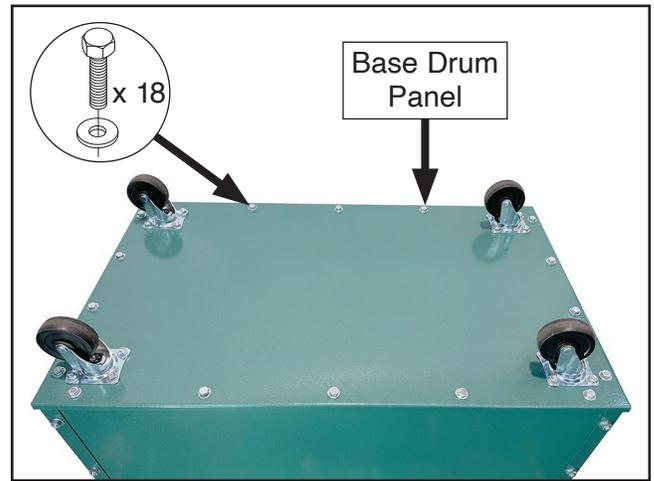

Figure 48. Base drum panel with casters attached to drum assembly.
37. Place drum assembly upside down on flat protected surface, then attach base drum panel to bottom drum assembly with (18) $\frac{5}{16}$ "-18 x $\frac{5}{8}$ " hex bolts, and (18) $\frac{5}{16}$ " flat washers (see **Figure 48**).